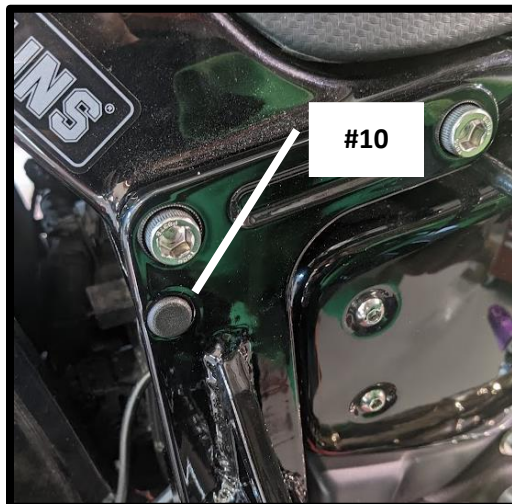

Figure 3
4. If you are **NOT** using our **OG Ohlins 18+ Softail Shocks External Preload Master Cylinder Mount**, use the provided plug to fill the hole as shown on **Figure 3**.